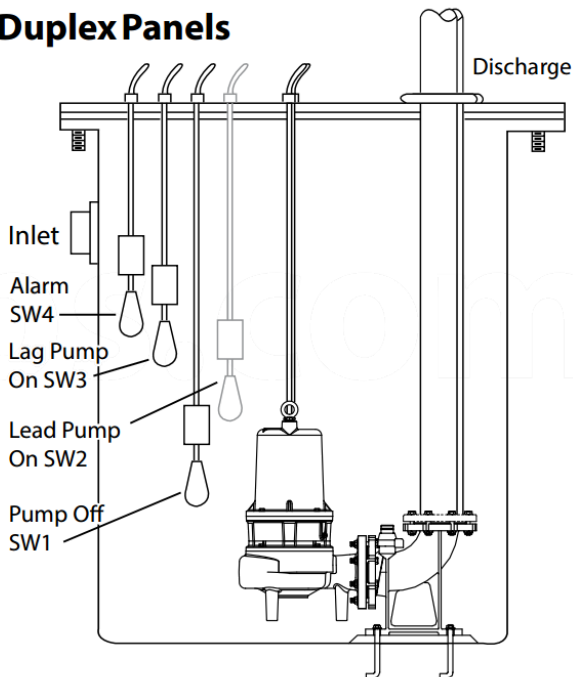

Figure 1
Refer to the figure 1 which shows a typical installation of (2) 1 phase 230 volt and 3 Phase pump at all voltage using (3) level control switches (SW1, SW2, SW3) and (1) high water alarm switch (SW4) mounted to the style 1 pilot device with a duplex control panel. The level control and high water alarm float should have adequate clearance so they cannot hang up in their swing and that the pump is completely submerged when the level controls are in the "OFF" mode. By adjusting the cord tether the control levels can be changed.